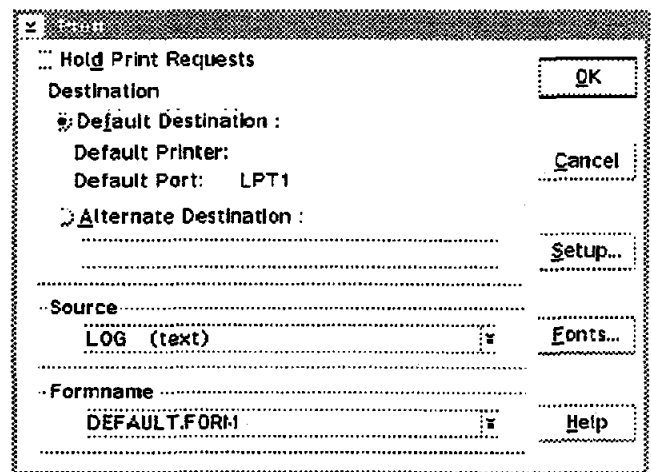

Figure 2. Print Dialog Box
1. From the DMS window that you would like to print, use the popup menu to select 'File' -> 'Print' -> 'Print File'. This will bring up the Print dialog box (Figure 2.). This box can also be displayed by making the
2. In the Default Destination box you should see the port that the printer is attached to, such as LPT1. If you are printing through print manager, the Default Printer field should show the printer you have chosen in printer setup. If you are by-passing print manager, this field should be blank (as shown in Figure 2).